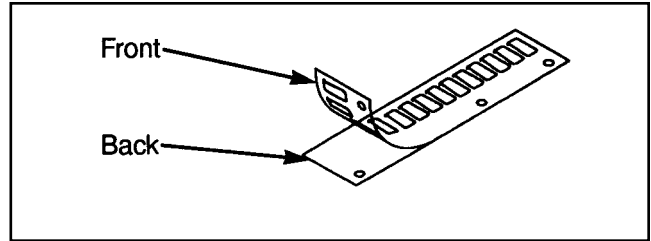

Figure 23
(see steps 9A - 9H, Figures 23 and 24).
- B. Place weight plate decals on weight plates according to steps listed below and Figures 23 and 24.